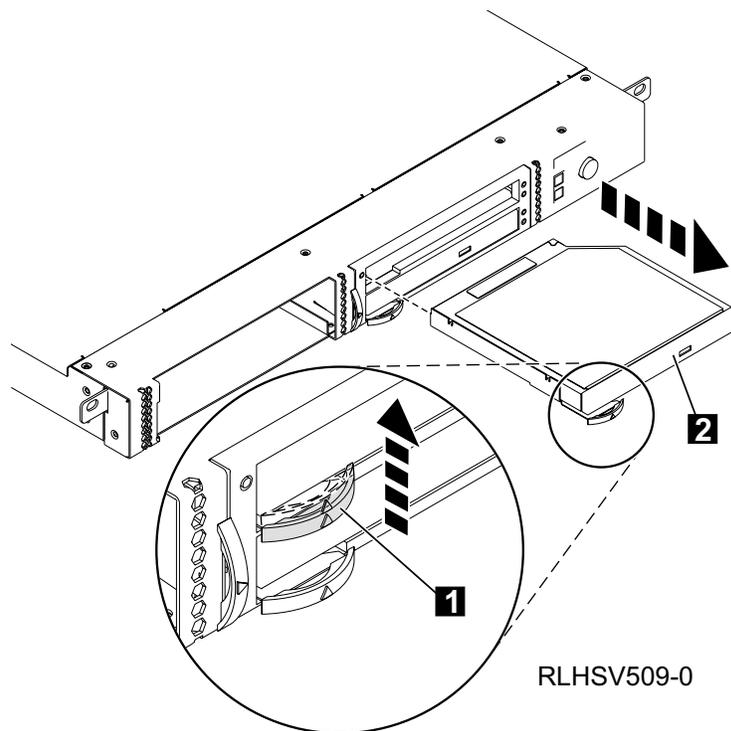

Figure 8. Removing a DVD Drive
2. Push the latch (see **1** in Figure 8) up toward the DVD Drive.